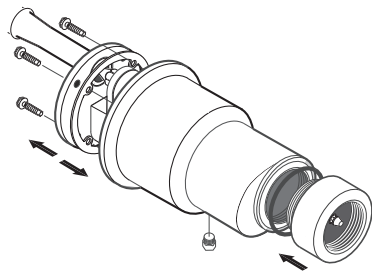
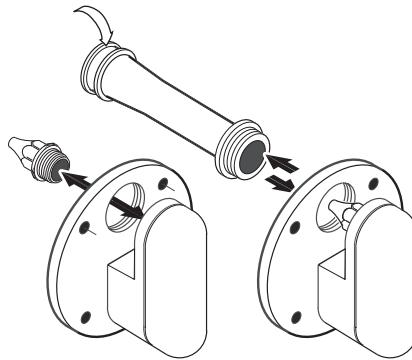

Figure 1
Figure 2
1. Remove the 4 screws that fasten the insert assembly into ejector body (see Figure 1).
2. Unscrew the venturi from the ejector body insert (see Figure 2).
3. Use 5/8" deep-well socket to gently unscrew nozzle from ejector body insert (see Figure 2).
2. Thread nozzle into ejector body insert (see Figure 2). Use 5/8" socket to seat nozzle. **Do not overtighten.**
3. Install small O-Ring in groove on venturi (see Figure 2). Thread venturi into ejector body insert (see Figure 1) hand tight.
4. Install O-ring in groove on end of ejector body (see Figure 1). Thread check valve onto ejector body (see Figure 1) hand tight. Be sure O-Ring is seated in groove.
5. Install gasket on step in ejector body; install ejector body insert in ejector body (be sure it seats) with D-shaped opening DOWN (toward AVC plug) and venturi UP (see Figure 1).
6. Use four screws to mount insert assembly in ejector body (see Figure 1). Be sure insert assembly is seated and all four screws are well started before tightening any screw. **Do not overtighten.**